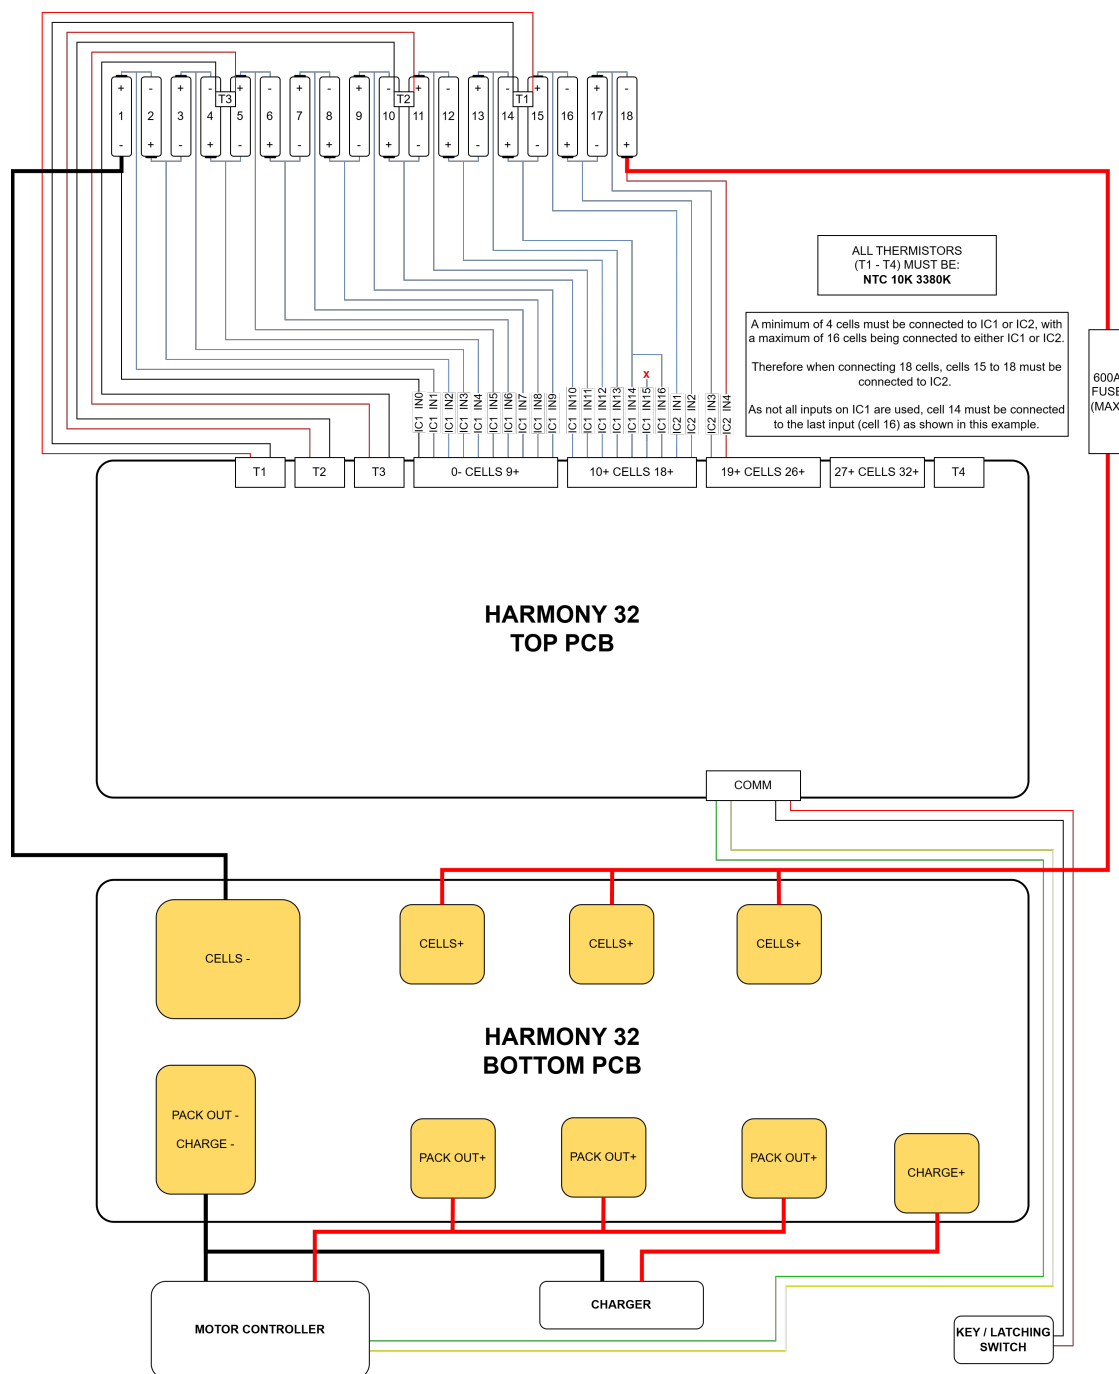

Figure 4: 18s Wiring Diagram
- If the number of cells is between 17 and 19, please refer to Figure 4.